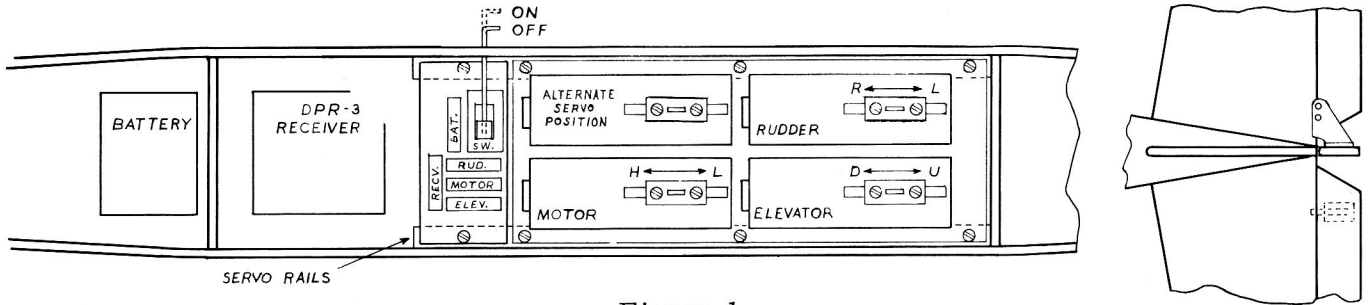
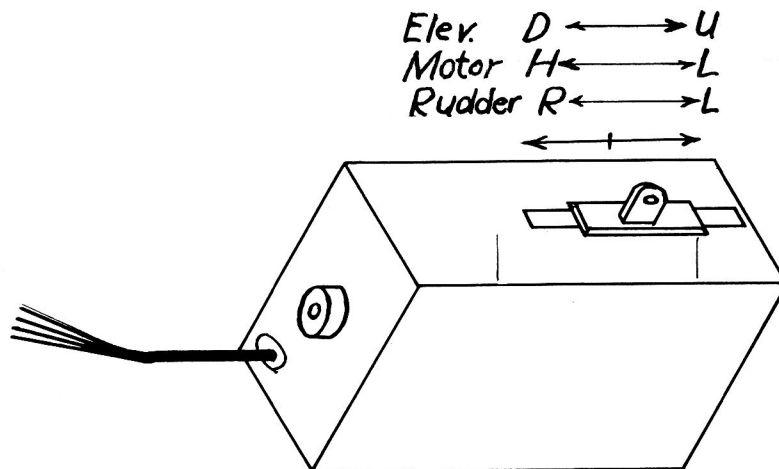

Figure 1
Figure 3
- C. Servos - Figures 3 & 4
The sockets are identified in Figure 1.
Figure 1 shows a typical installation. Your particular model may require some variation. Batteries should always be mounted ahead of or below the receiver.
Before installation in plane, cut length of wiring board to match width of plane. Drill mounting hole in each end of board to match servo rails. (See Figure 1). Determine desired length for off-on switch rod. Cut, bend, and thread into 0-80 tapped hole in switch. (Follow Figure 1).
The servo direction of travel cannot be changed. Therefore, it is necessary to mount servos and control horns correctly to get the desired control direction from transmitter stick motion. Figure 1 and Figure 3 show the direction servos move for various control functions.
The amplifier board, limit switches, and feedback potentiometer are assembled into one unit. This eliminates all interconnecting wires inside the Servo, preventing failures from wire breakage. The Servo direction of travel cannot be changed, so it is necessary to mount the Servos and control horns correctly to get the desired control direction from transmitter stick motion. Figure 1 and Figure 3 show direction the servos move for various control functions.